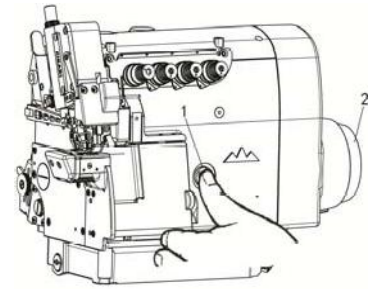

Fig. 22
1. With push button 1 depressed, turn handwheel 2 so that the push button 1 goes further into the depth (Fig.22).
2. With the push button in the place stated in 1. Turning handwheel 2 counterclockwise produces coarse stitches. Turning handwheel 2 clockwise produces fine stitches (Fig.22).